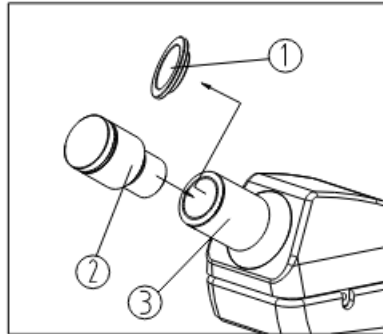

Fig. 4
1. Remove the cover from the eyepiece tube①.
2. Insert the eyepiece② into the eyepiece tube, until it is completely inserted.
3. Tighten eyepiece with M2.5 inner hexagon lock-screw③ (see Fig.4).